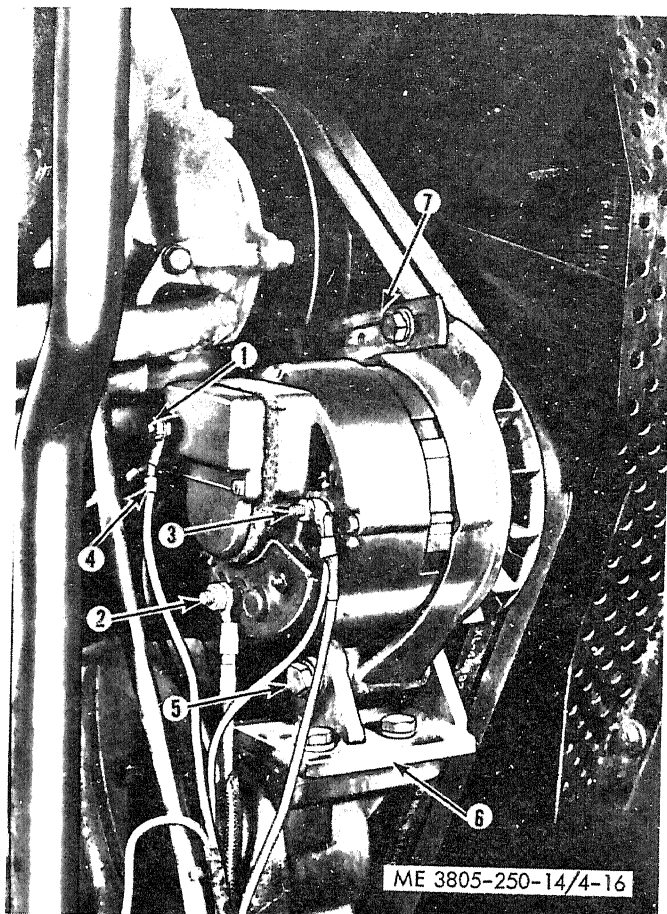

Figure 4-16. Alternator, removal and installation.
(1) Disconnect the field terminal (1, fig. 4-16), output terminal (2), ground (3) and regulator terminal (4) from the alternator housing.
(2) Remove the lockwasher and bolt (5) securing the alternator to the mounting bracket (6), and remove the bolt, lockwasher, and two washers securing the alternator to the adjusting brace (7). Remove the alternator from the loader.
KEY to fig. 4-16: